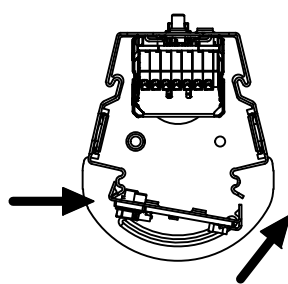

FIGURE 3: BOARD CARRIER
- 7) Snap on lens by angling one side in and then pivot the opposite end around to snap in the other side as shown in Fig 3.